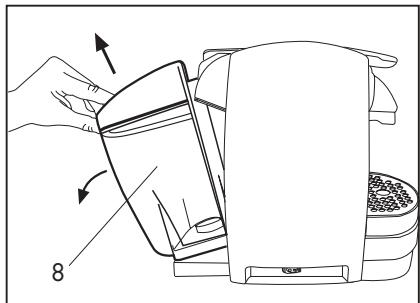

Fig. 1
- Remove the tank (8) by pulling it outward and lifting. (**Fig.1**)